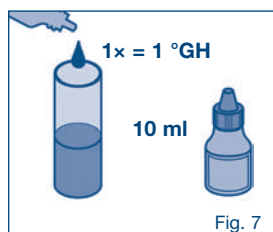

Fig. 7
- The total hardness can be requested from the water supplier or established by means of a quick test (droplet test, Fig. 7). The bypass setting can be selected based on the total hardness and its application. The typical filter capacities are shown in Table 1 in Section 10.